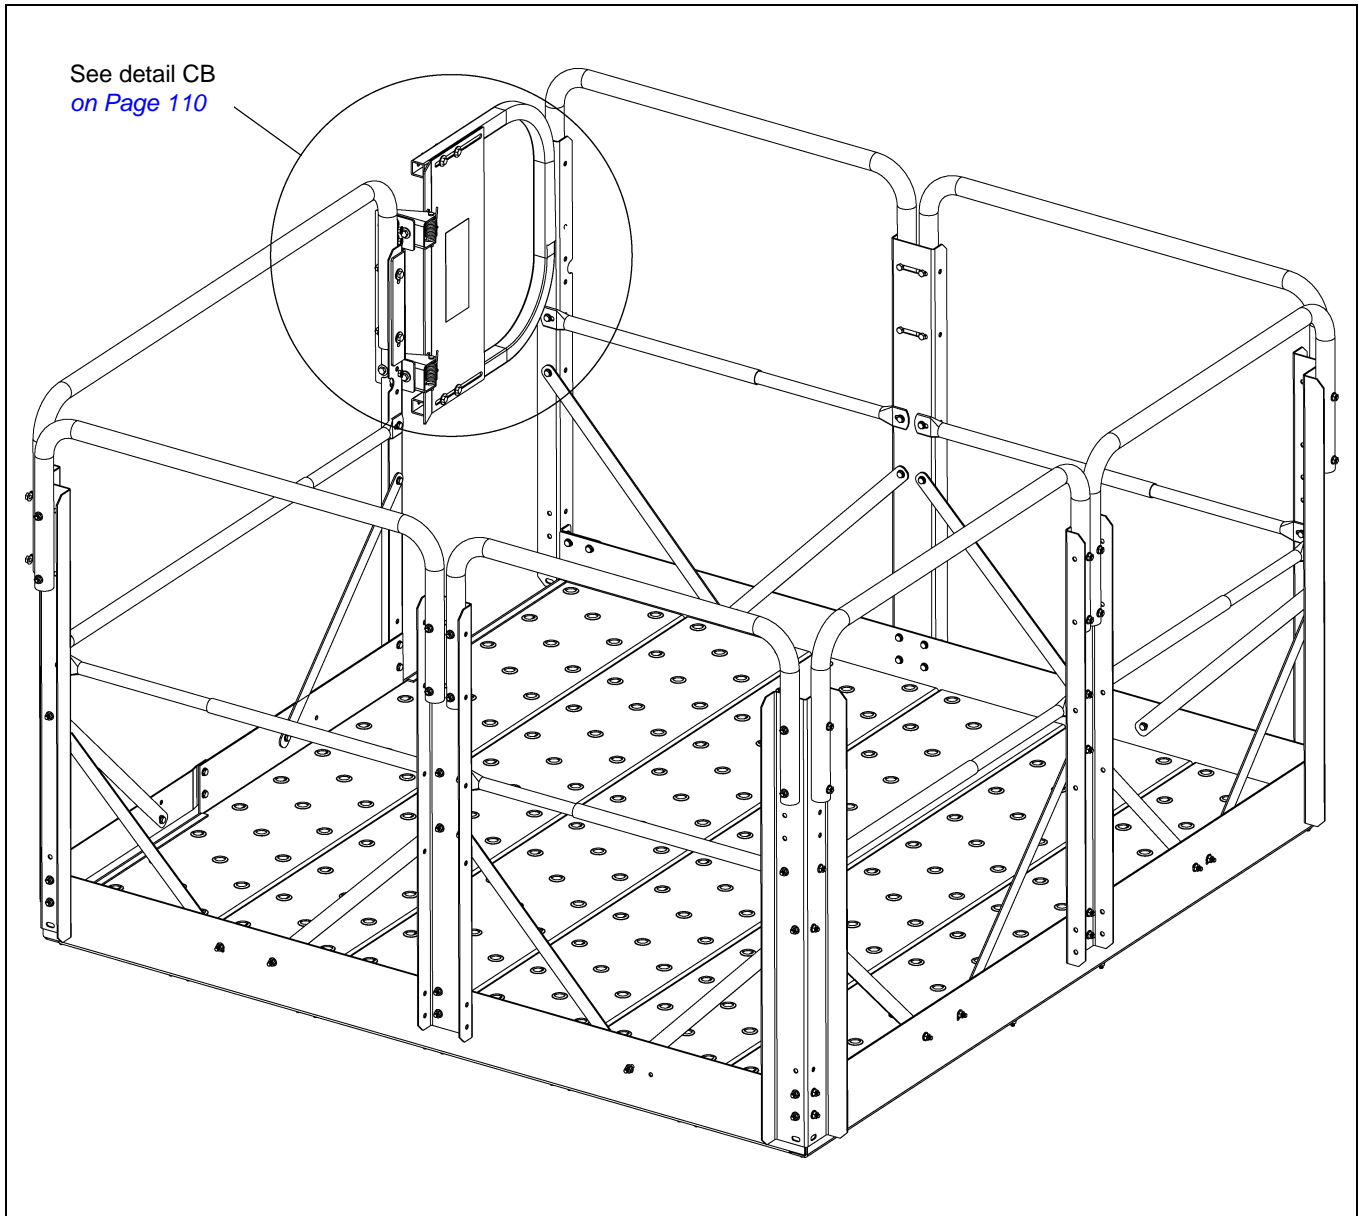
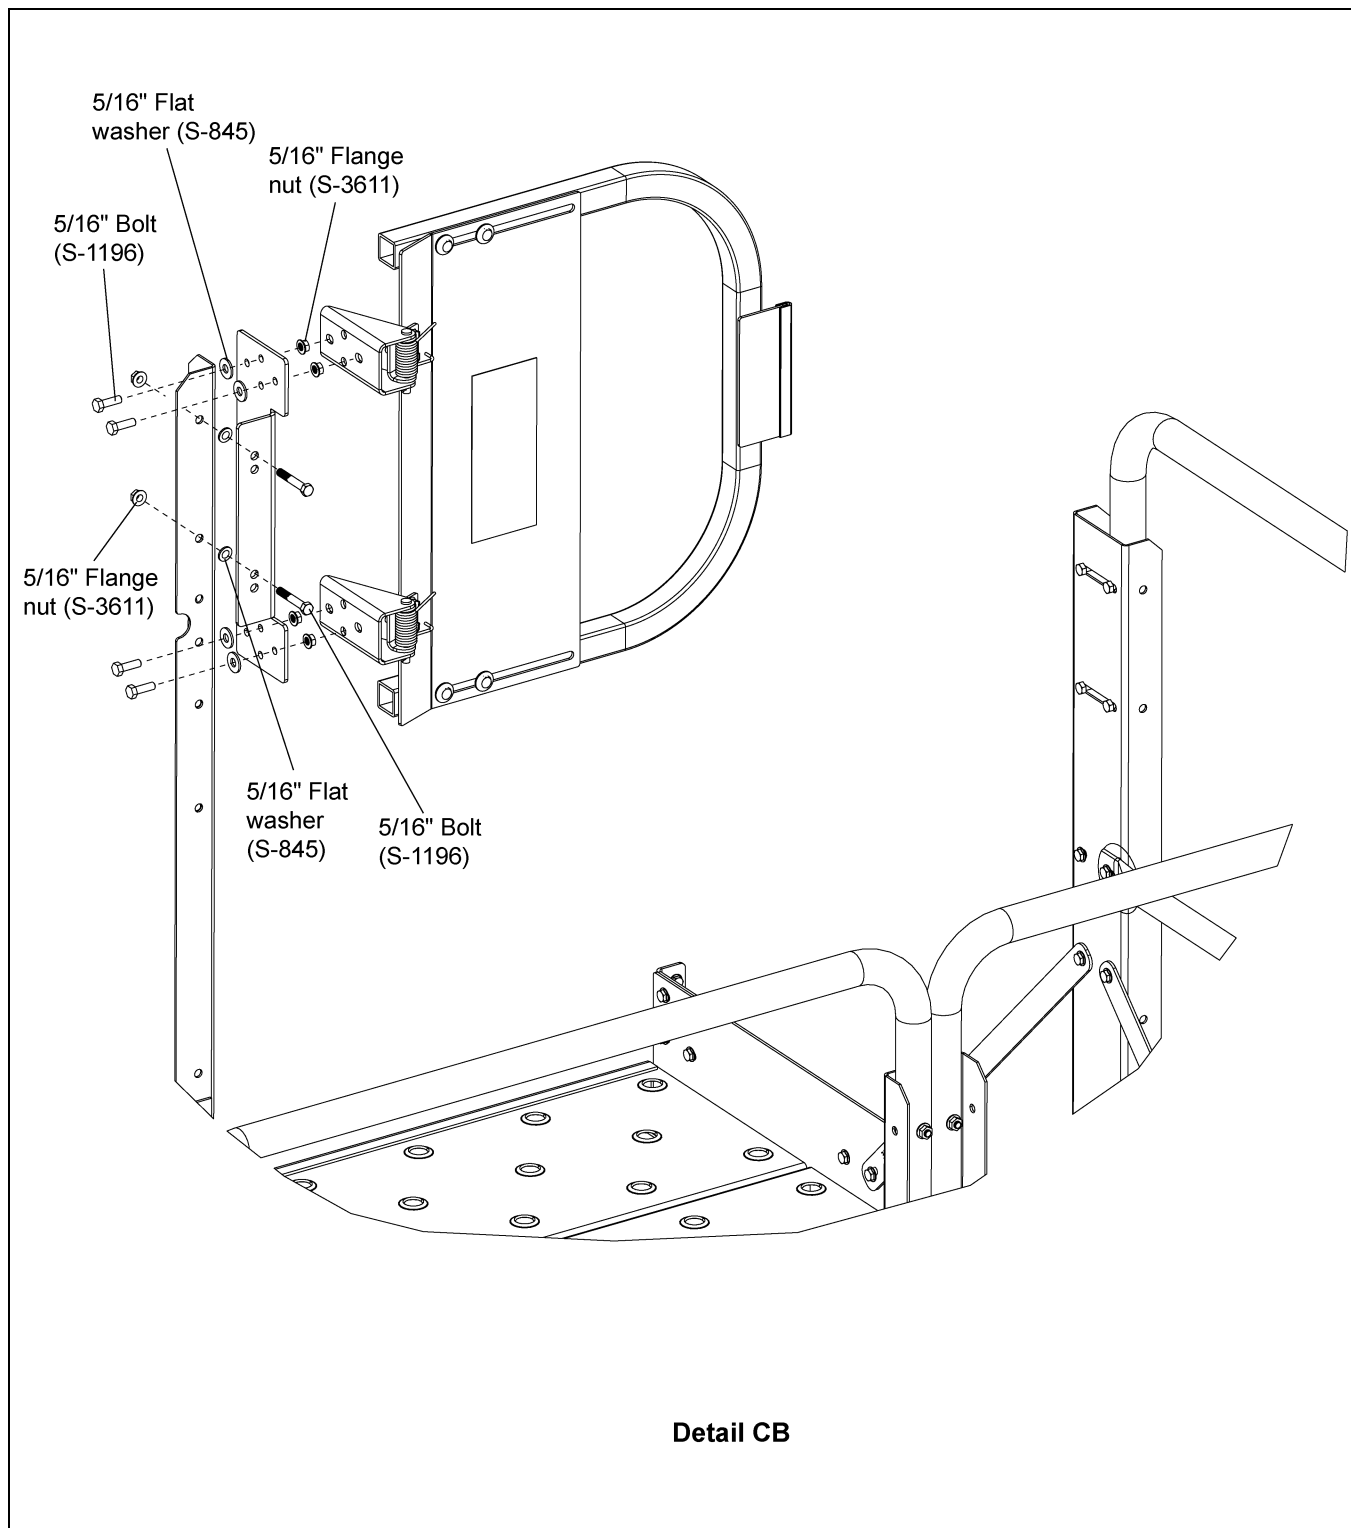

Figure 10R
Figure 10S
Attach intermediate platform door bracket to two (2) safety gate side posts (HP1648HP) using 5/16" bolt (S-1196), 5/16" flat washer (S-845) and 5/16" flange nut (S-3611). (See Figure 10R below and Figure 10S on Page 110.)